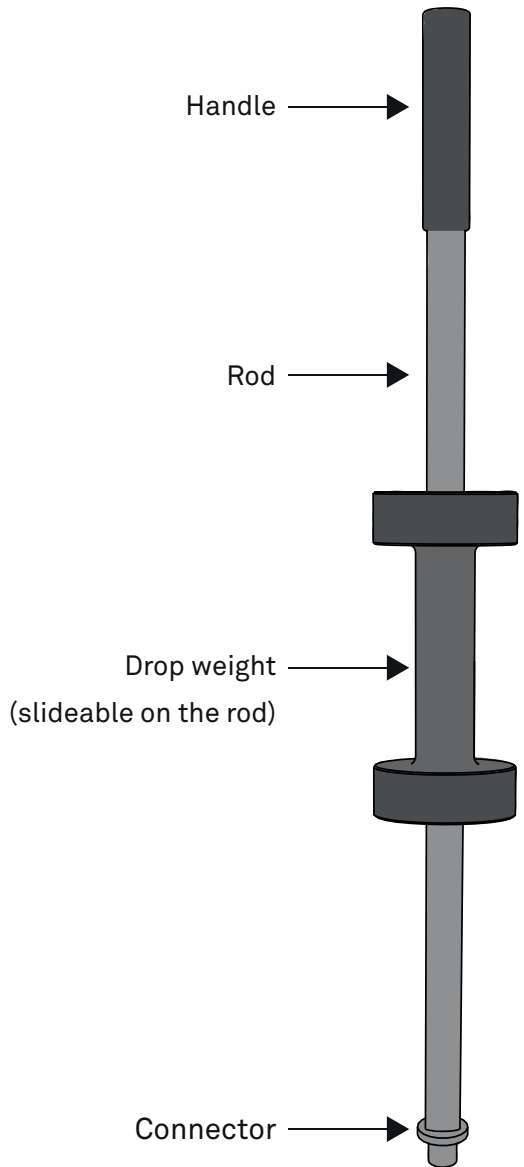

Figure 3 TEROS 54 slidehammer
- The slide hammer (Figure 3) consists of four parts: handle, rod, weight (approx. 4 kg [8.82 lbs]) and connector (put on the TEROS 54 head). Because there is a predetermined distance that the slide hammer weight travels when dropped, there is an even distribution of force delivered.